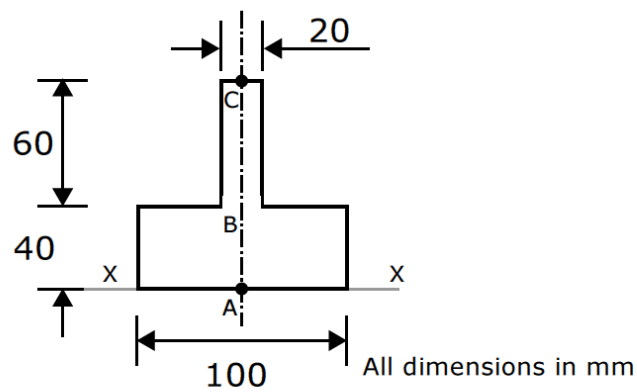

Figure Q5
5. The section shown in Figure Q5 carries a shear force,  $S = 40\text{kN}$  down the vertical centre line.